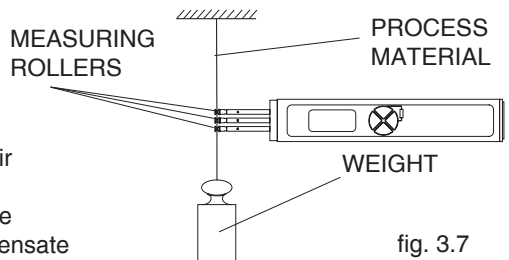

fig. 3.7
- The ETX is factory calibrated for a vertical material path (fig. 3.7).
- Hang a weight which corresponds to the tension to be measured (pay attention to the correct unit of measure **cN**) from the measured material, vertically, as shown in fig. 3.7.
- The ETX is factory calibrated for a vertical material path (fig. 3.7). Recalibration thus also has to be carried out with a vertical material path.